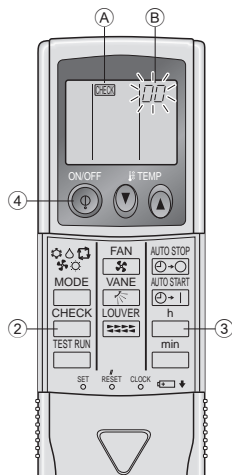

Fig. 7-6
7.3.2. Wireless remote controller (Fig. 7-6)
① Turn on the power.
② Press the button twice.